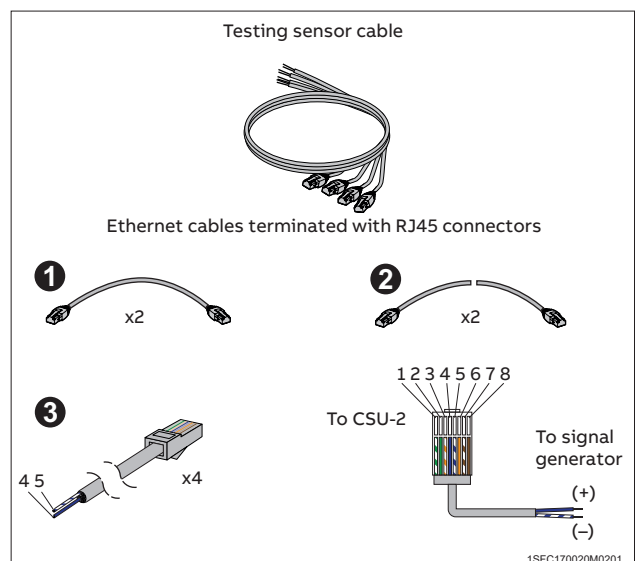

Figure 15
1. Prepare 4x shielded cables terminated with RJ45 connectors. See **Figure 15**.
3. For each testing the testing sensor cable, wire 4 (blue) should go to plus (+) on the tester. Wire 5 (white/blue) should go to common (-/GND) on the tester. Wire 1, 2, 3, 6, 7 and 8 should not be connected to any. See **Figure 15**.